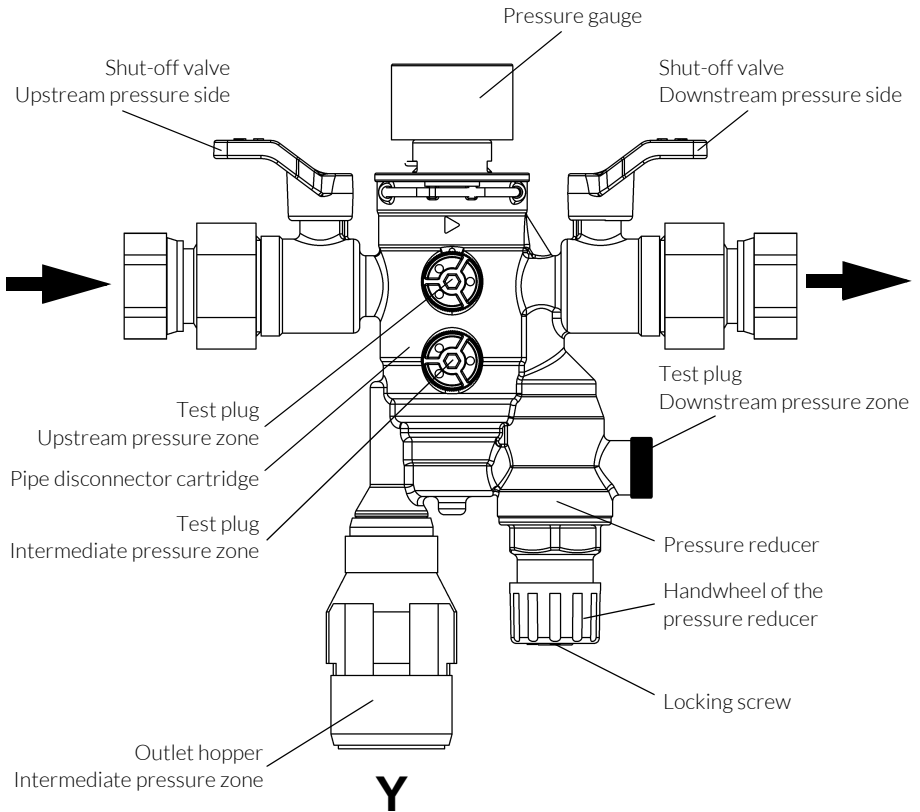

Fig. 5: CLEAR FILL function
The heating circuit refill unit contains all components specified according to DIN EN 1717 so that the drinking water pipe can be connected directly to the heating circuit (see fig. 5).
- / Open the integrated shut-off valves on the heating circuit refill unit and as necessary supply water up to the set pressure (e.g. 1.5 bar) (see fig. 5).
- / Undo the locking screw of the pressure reducer handwheel (see fig. 5).